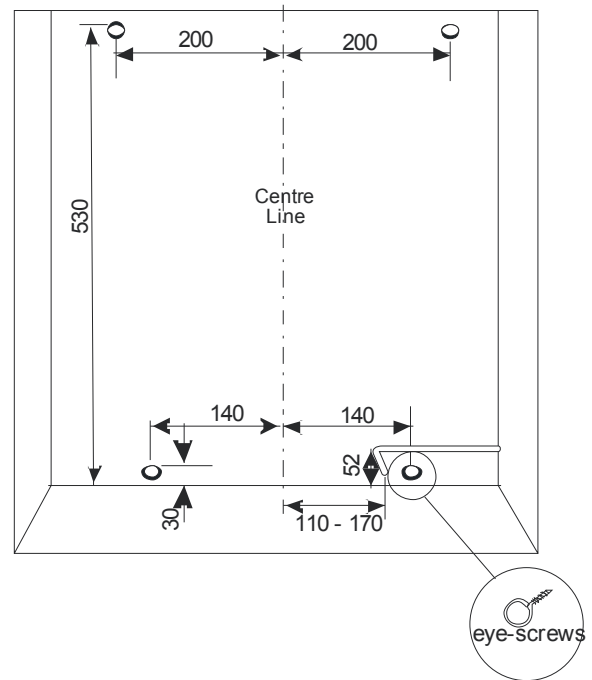

Figure 63
2. Mark out, drill, plug and fit the four eye screws onto the rear wall of the fireplace opening as shown in **Figure 63**.
4. Install the gas supply within the opening using rigid or semi-rigid tubing allowing for rear entry into the fire box (See **Figure 63**).